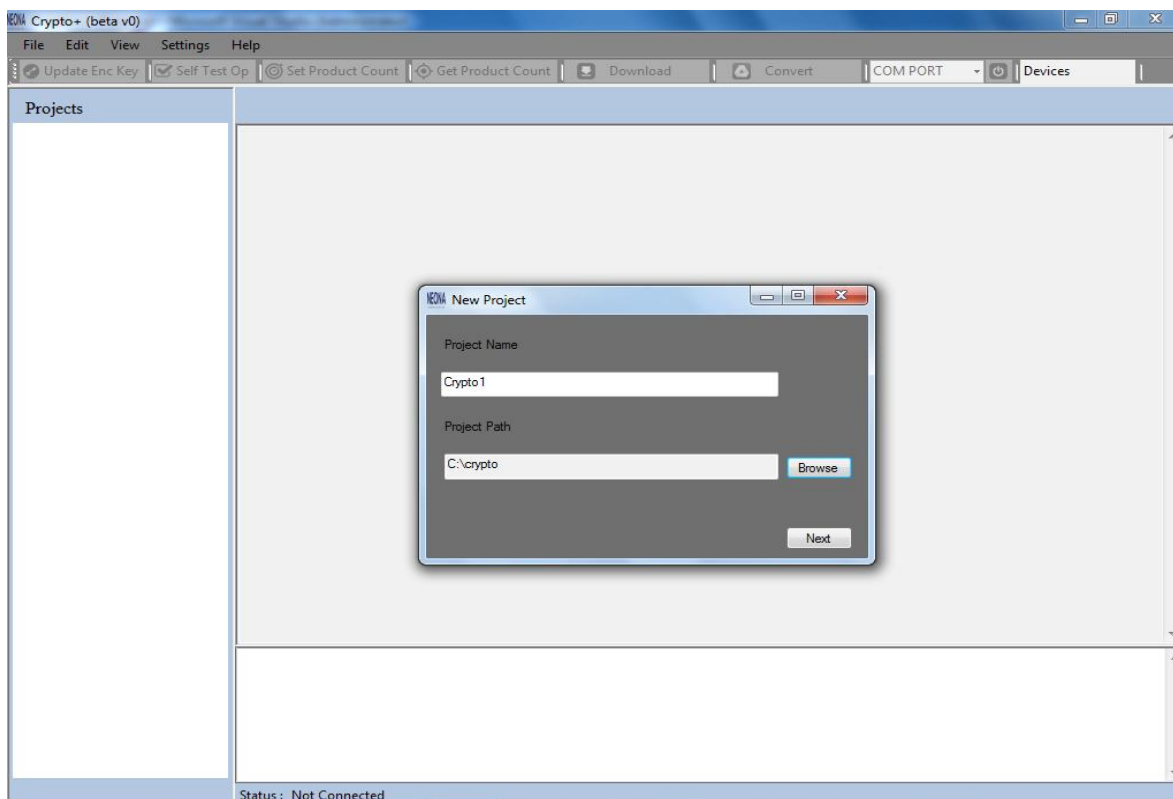

Figure 2.13
STEP 4: Click **Next** as shown in figure 2.13.